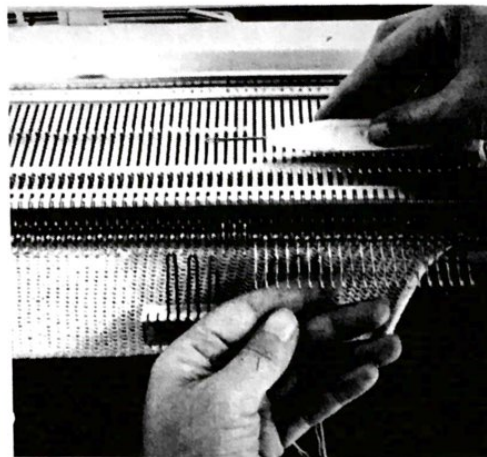

Fig. 51
- (d) Bring forward into Position (E) every working needle and knit one row. (Fig. 51)